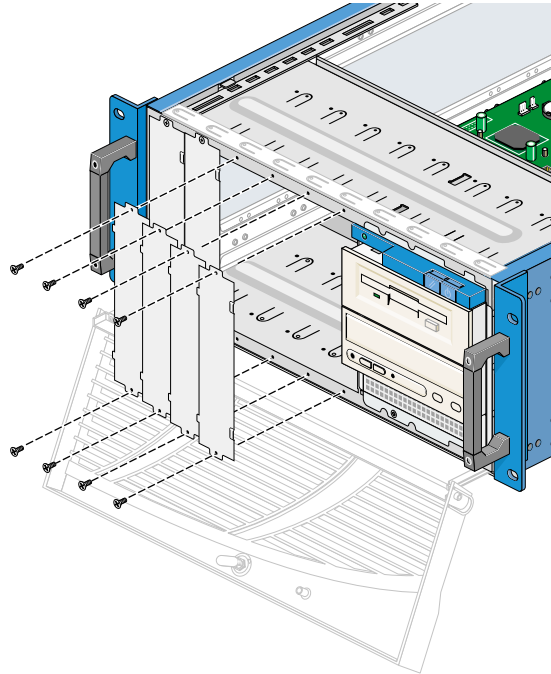

Figure 5-6 Removing Drive Blanking Plates from the Node Chassis
- Working from right to left, remove the four vertical blanking plates from the front of the node chassis; see Figure 5-6.